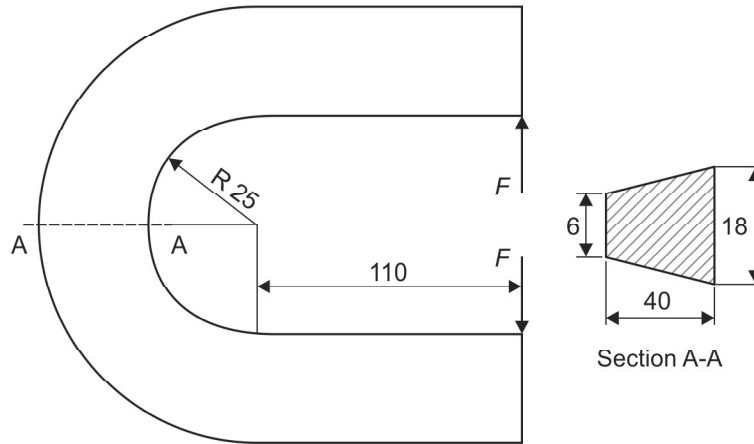

Fig. 1.29(a): Problem 23
23. Determine the safe load F that the frame of a punch press shown in Fig. 1.29(a) can carry considering the cross-section along A-A for an allowable tensile stress of 100 MPa. What is the stress at the outer fiber for the above load? What will be the stress at the inner fiber, if the beam is a straight beam for the above load?